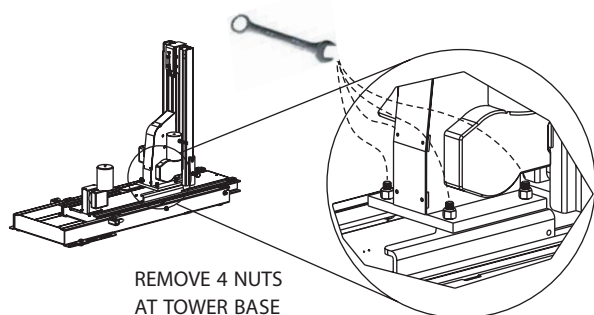

Figure 11-2
- Remove 4 nuts at tower base . [Figure 11-2]